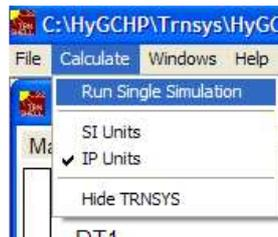

Figure 18. Calculate Menu
- 10.) Now, choose either **Run Single Simulation** or **Run Optimization** from the *Calculate* menu (Figure 18 shows the **Run Single Simulation** case).